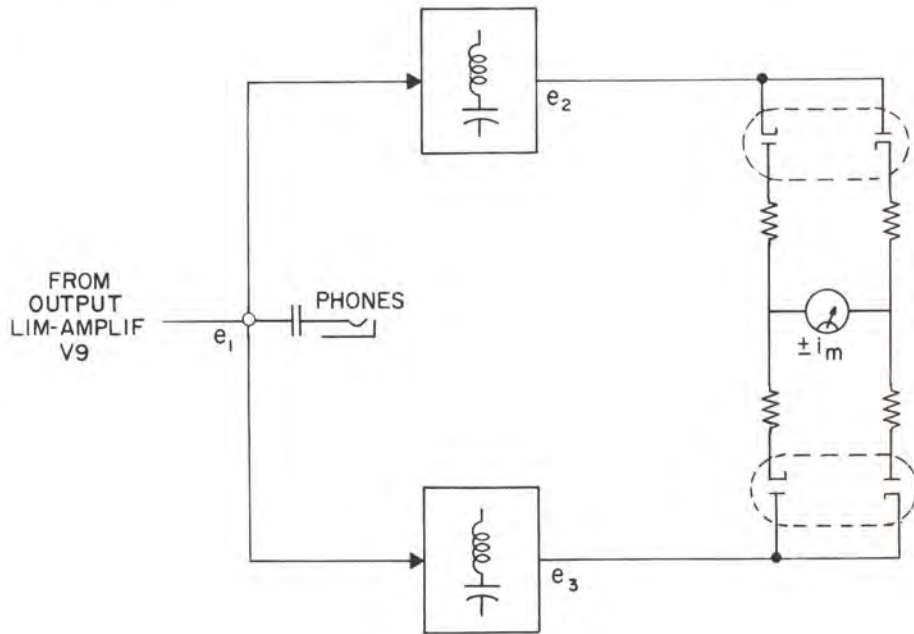

Figure 3.
4.5 DIFFERENTIAL DIODE VOLTMETER. (See Figure 3.) The meter circuit consists of a full-wave